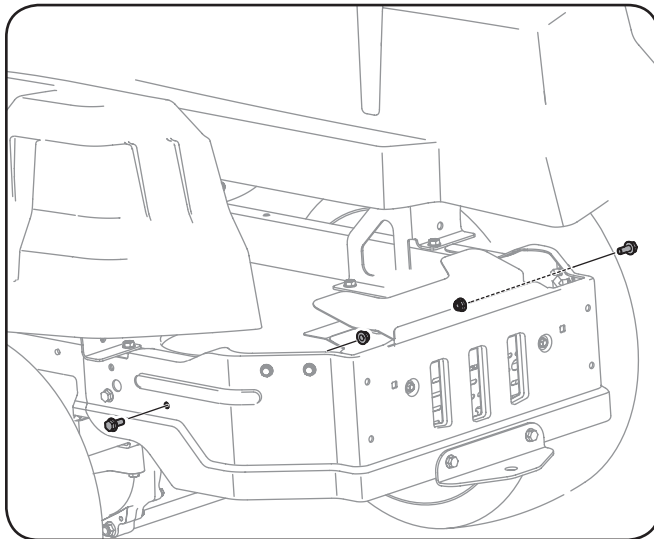

Figure 4-1
1. Remove hex screw and flange lock nut shown in Figure 4-1 from the rear frame of the tractor on each side.